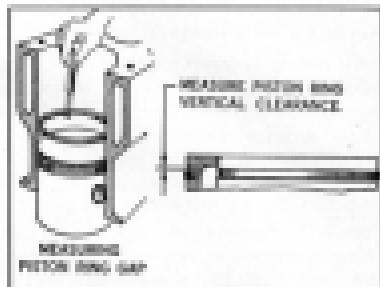

Fig. 180. Fitting Piston Rings
Six threaded holes are provided in the flywheel for mounting the clutch assembly. The second threaded hole in the flywheel on each side of the clutch housing cover has a deeper counterbore than the other threaded holes. (See Fig. 180.) Two of the cap screws have a longer shank under their head and must be used in the holes with deeper counterbores. Otherwise, it is impossible to securely fasten the clutch assembly to the flywheel. The purpose of the longer shank cap screws is to provide locating dowels between clutch assembly and flywheel.
1. Piston ring gap must be measured with the ring down in the ring recessed part of the cylinder bore to which it is fitted. Be sure ring is square in cylinder bore. When filing ring for gap clearance, make sure that gap is square. Measure vertical clearance as shown in Fig. 180.